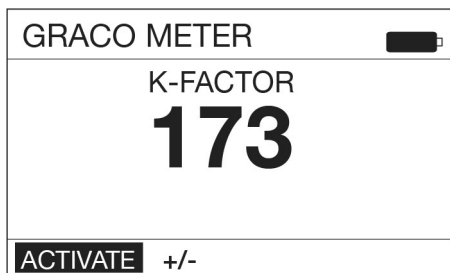

FIG. 15
- The calibration k-factor screen shown in FIG. 15 displays.
- Select ACTIVATE and press the center ENTER button on the keypad to begin metered dispense valve calibration (FIG. 15).